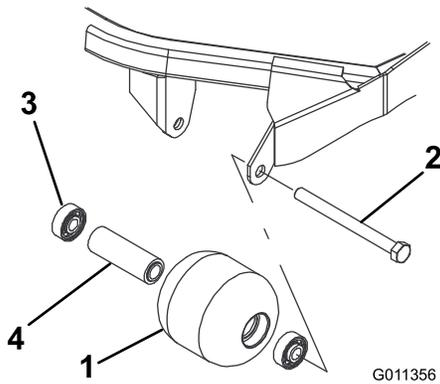

Figure 88
1. Remove the roller-mounting bolt (Figure 88).
4. Inspect the roller housing, bearings, and bearing spacer for damage (Figure 88). Replace damaged components and assemble.
1. Press the first bearing into the roller housing (Figure 88). Press on the outer race only or equally on the inner and outer race.
2. Insert the spacer (Figure 88).
3. Press the second bearing into the roller housing (Figure 88). Pressing equally on the inner and